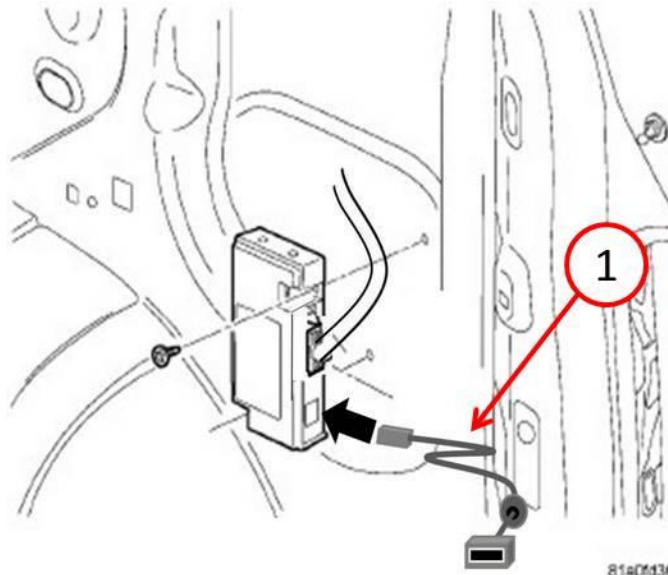

Fig. 11 USB Harness Connection
3. Connect the USB harness (PN# 82212160 or 68086985AB.) as shown in (Fig. 11).